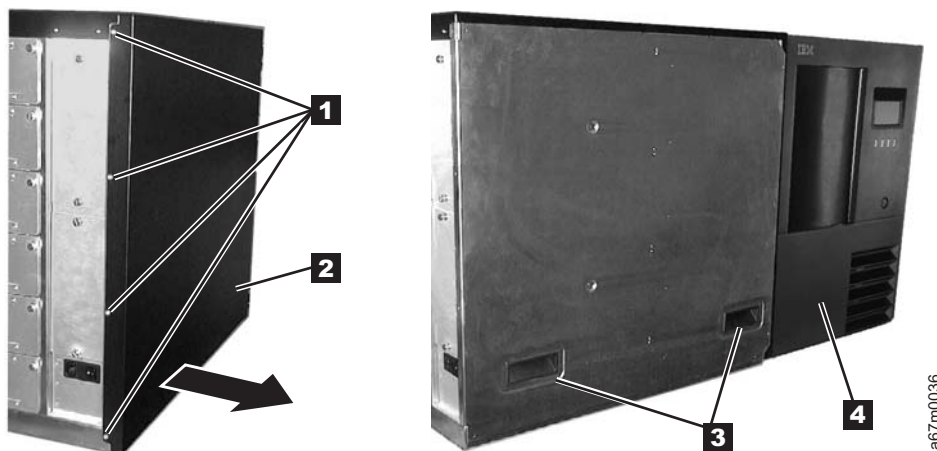

Figure 8-50. Side Cover Removal and Replacement
See Figure 8-50 for locations of components in the following procedure.
4. Remove the four Phillips screws **1** as shown in Figure 8-50. After removing the Phillips screws, the cover **2** can only be removed if you open the front door.
See Figure 8-50 on page 8-61 for locations of components in the following procedure.